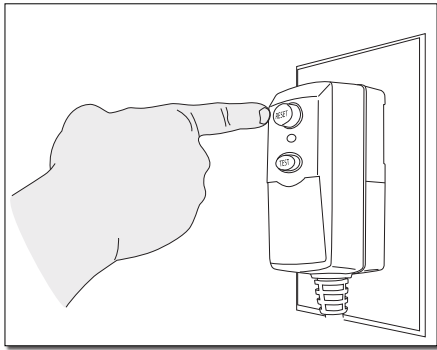

Fig.20
- Unwind the power cord completely and plug the GFCI into a grounded 125V outlet. Press the 'reset' button on the GFCI box (**Fig. 20**). The indicator window should show "PASS". This should be done each time the unit is plugged in.